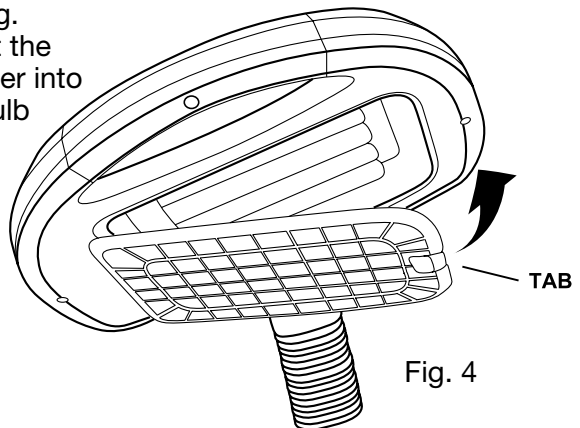

Fig. 4
4. Remove the light diffuser from the protective plastic bag. Insert the plastic pegs at the bottom of the light diffuser into the openings near the bulb socket. Snap the tab into place as shown in Fig. 4.